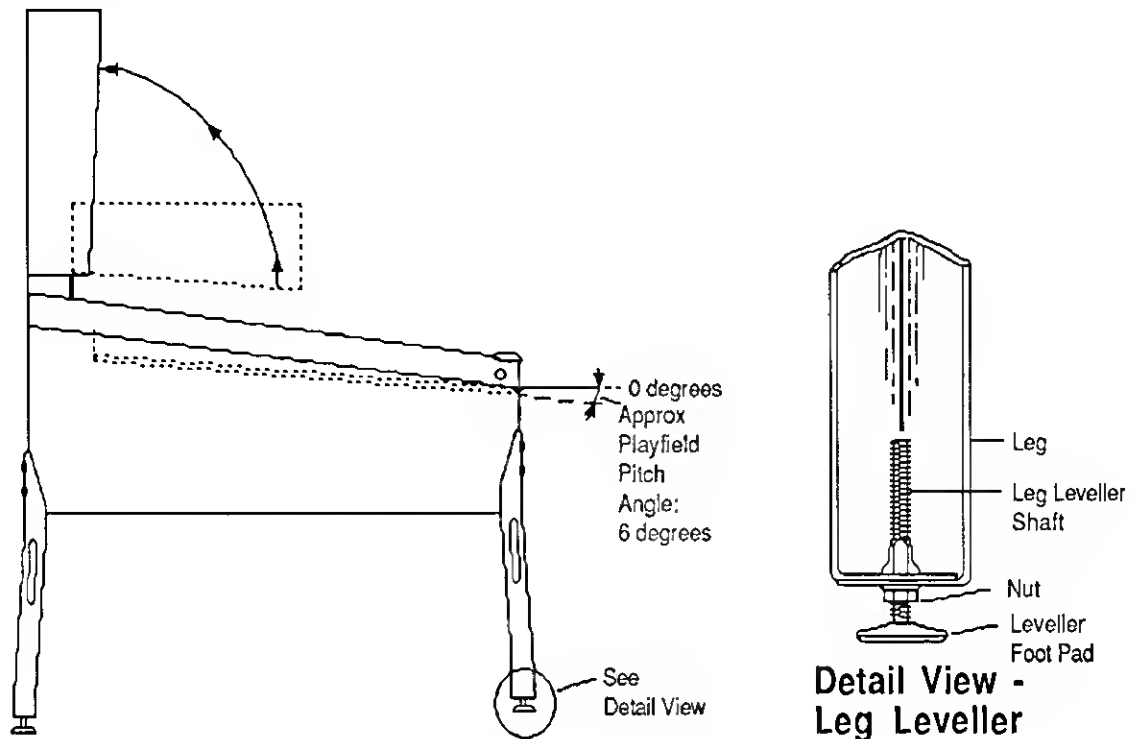

Figure 3. Pinball Assembly, Playfield Pitch Angle, and Leg Leveller Details.
3. Attach the front legs (after installing leg levellers), using leg bolts. See Figure 3 for details.
7. Adjust the leg levellers for proper playfield level (side-to-side) and playfield pitch angle (incline) of approximately 6 degrees. (Again, it is recommended that these measurements be made ON the playfield, not the cabinet nor the playfield cover glass.) Tighten the nut on each leg leveller shaft to maintain this setting, as shown in Figure 3.